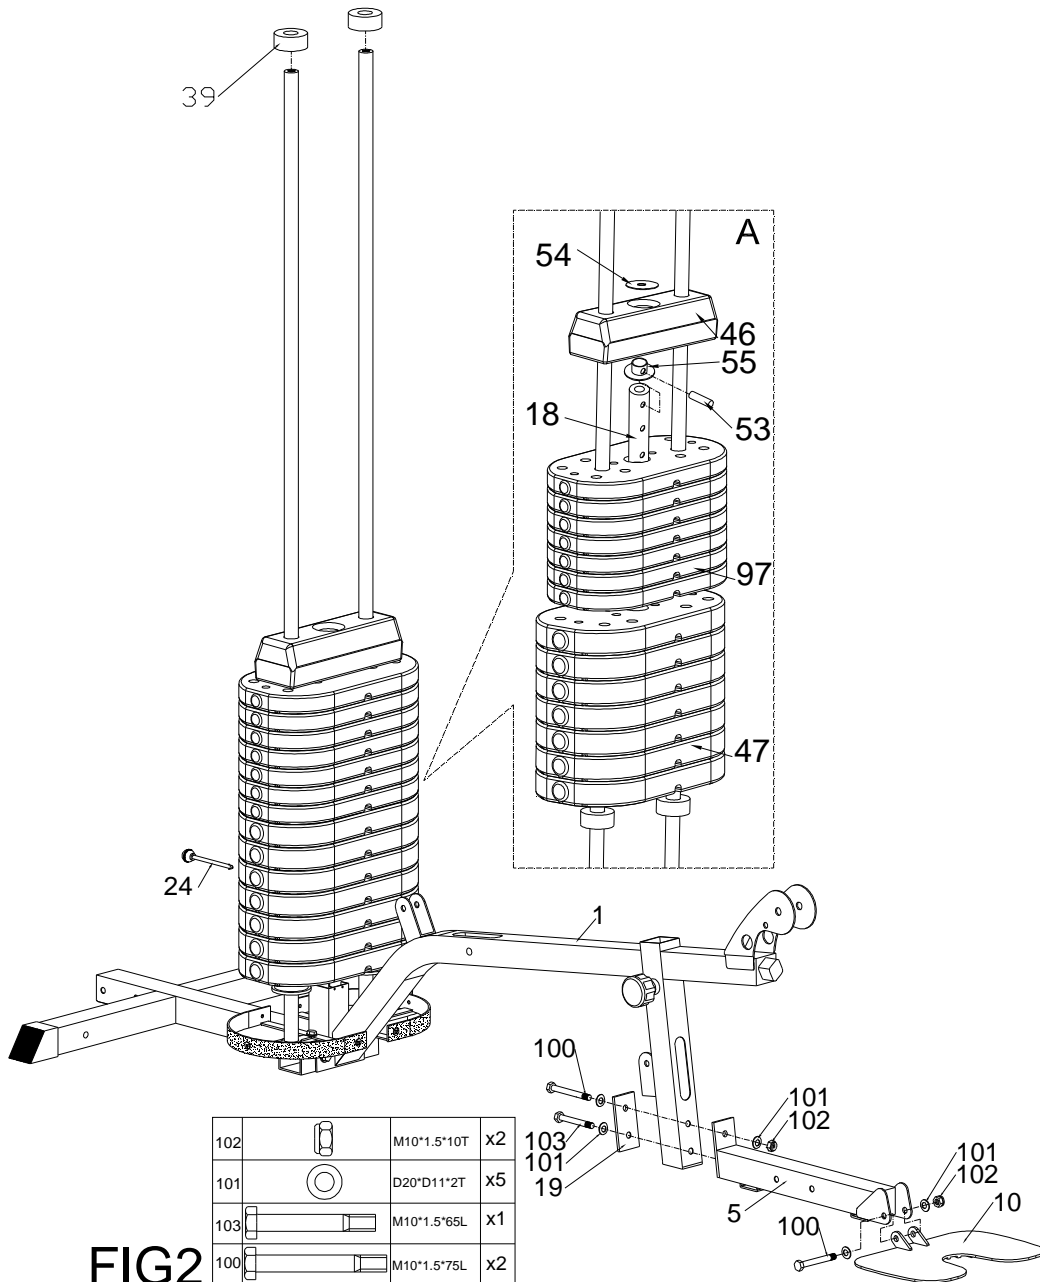

FIG2
- 2) The plate for foot could be adjusted vertically shown as fig. 2.